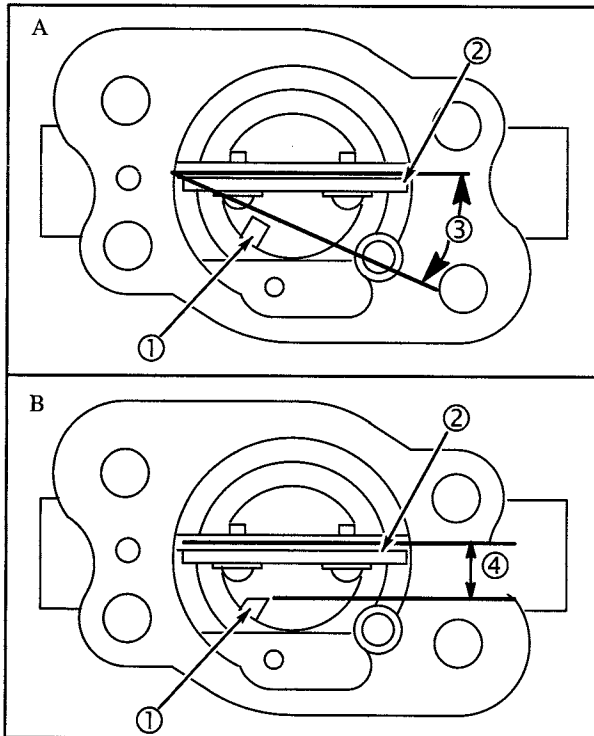

Fig. 95
Two carburetor bodies are used, depending upon the use of a fuel pump (illustration A) or gravity feed (illustration B) fuel delivery system, **Fig. 95**. Besides a change in jetting, the end of the discharge nozzle is machined at a different angle. Since the discharge nozzle is an integral part of the carburetor body the carburetor bodies are not interchangeable. The carburetor bodies can be identified by looking down the carburetor throat and comparing the end of the discharge nozzle (1) in relation to the choke shaft (2), **Fig. 95**. On a fuel pump carburetor the end of the nozzle is at approximately a 20° angle (3) to the choke shaft (2). On a gravity feed carburetor the end of the nozzle is approximately parallel (4) to the choke shaft. The fixed main jet used with a fuel pump system is numbered 110. The fixed main jet used with a gravity system is numbered 117.5.